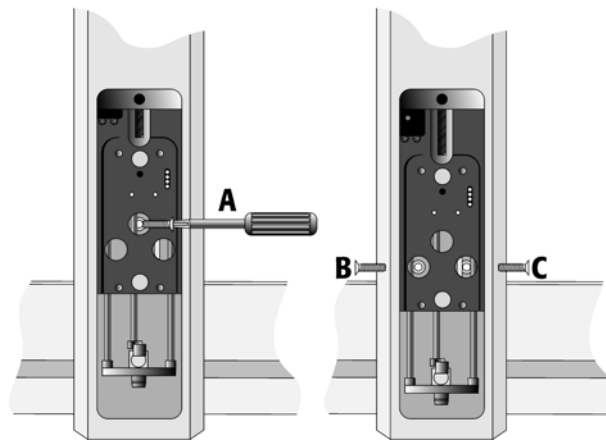

Figure 8. Inserting the Injection Unit Mounting Torx Screws
Installation of the Injection Unit should be done carefully. When installing it for the first time, have someone hold it in place while the mounting screws are inserted (see Figure 8).
- 4 Place one of the screws onto the end of the supplied Torx driver. Slide the clear plastic cover on the Injection Unit all the way to the top. Locate the three large holes in the black anodized frame attached to the Z Crossrail inside the Injection Unit. Slide the frame upwards until the top hole is centered on the top threaded hole in the end of the Y Crossrail. Insert and securely tighten the Torx screw **A** (see Figure 8).